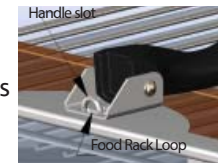

Figure 1
Step 4: Take handle assembly #1923248 and rotate the handle and bracket so they lie flat. Lay the bracket slot over the food rack loop on top of the glass door as shown (Figure 1).